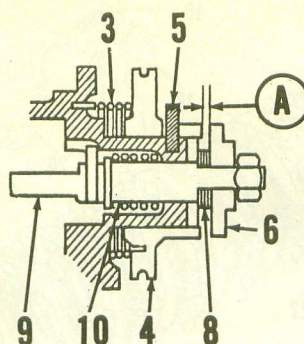

Fig. Y7-7—Clearance (A) is adjusted by varying shims (8).
Check the minimum plunger stroke by turning starter plate (16) until clearance (A—Fig. Y7-7) between pulley and adjusting plate is at minimum. Clearance (A) should be 0.20-0.25MM (0.008-0.0098 inch) on DS6 models and 0.25-0.35MM (0.0098-0.013